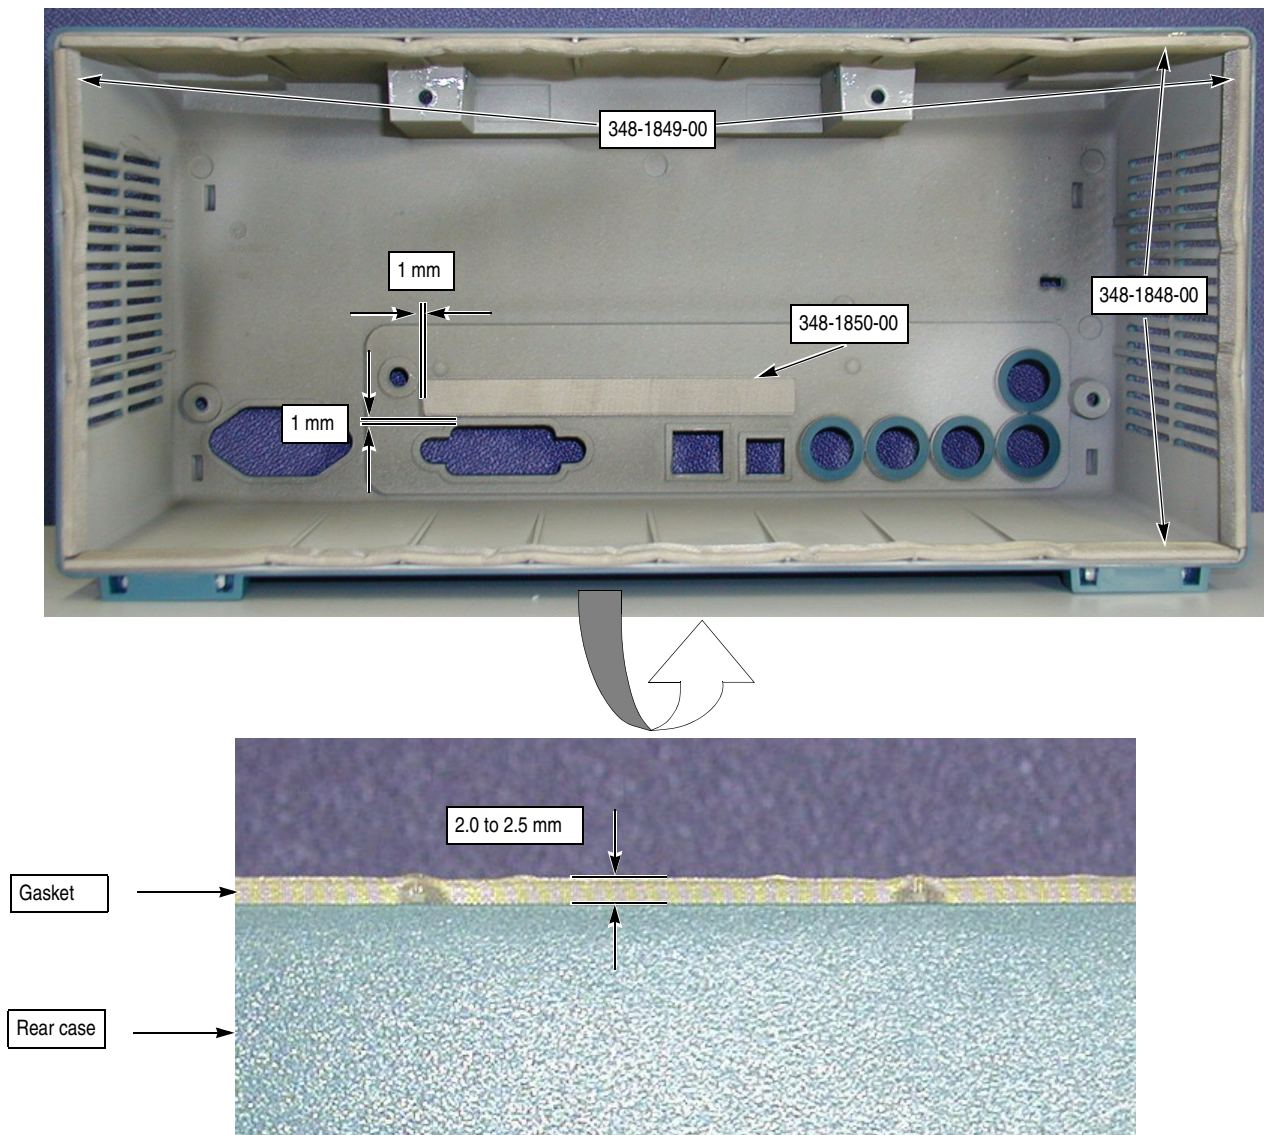

Figure 6-4: Pasting the urethane form gaskets
2. Attach the gaskets firmly to the inside of the case as shown in Figure 6-4, making sure that the gaskets stick out 2.0 mm to 2.5 mm from the edge of the case to ensure good contact with chassis ground.